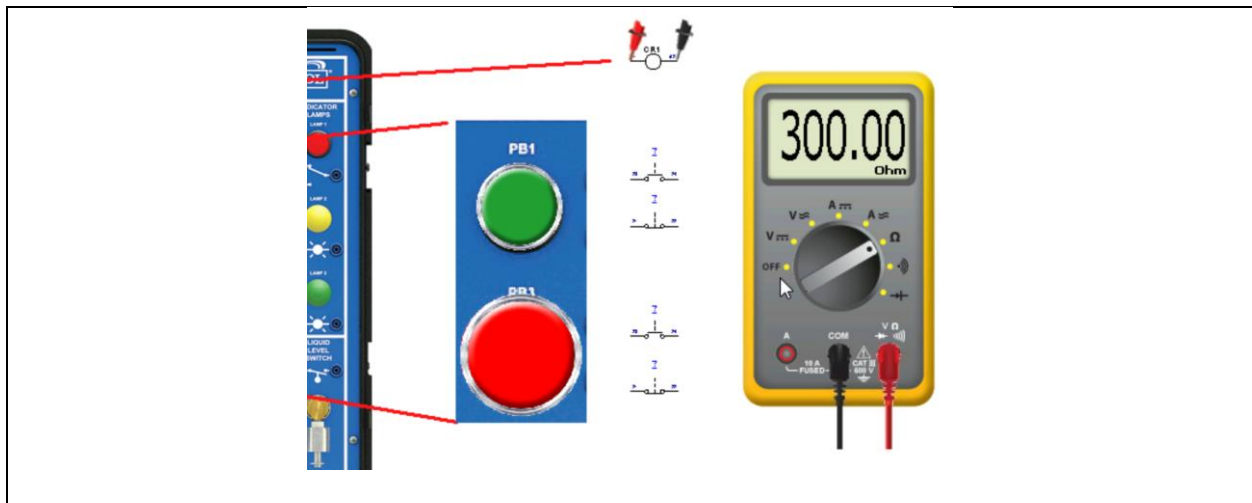

Figure 7. Measuring the relay coil resistance.
10. Move the multimeter probes to the coil as shown in Figure 7.